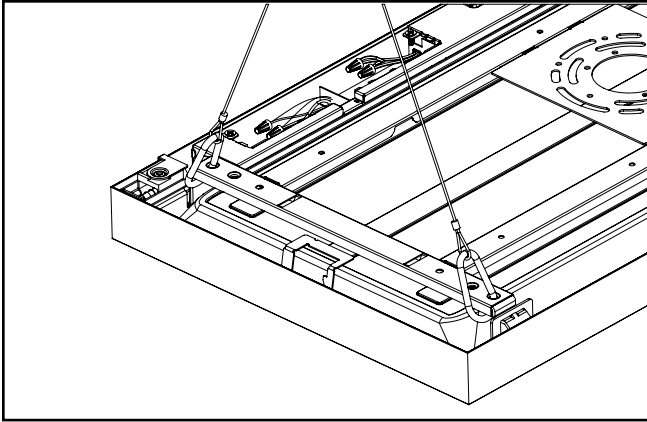

Figure 18.
7. For 1x1 and 1x2 models, connect the carabineers to the mounting bracket as shown in figure 18.